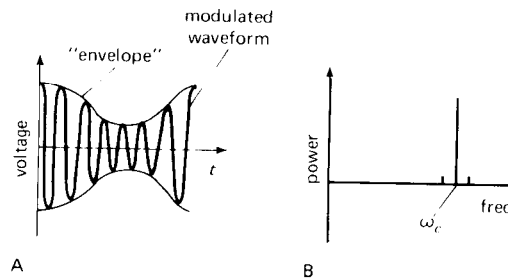

Figure 13.37. Amplitude modulation.
i.e., the modulated carrier has power at frequency ω_c and at frequencies on either side ω_m away. Figure 13.37 shows the signal and its spectrum. In this case the modulation (m) is 50%, and the two “sidebands” each contain $\frac{1}{16}$ of the power contained in the carrier.